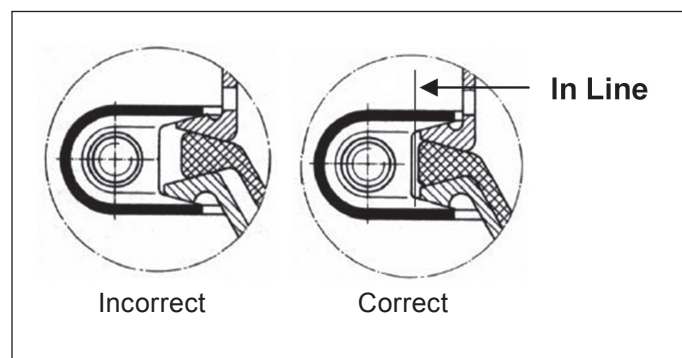

Figure 5 – Correct Diaphragm Position
1. Apply 10 psi (1 bar) of air pressure to the service port (11) of the spring brake chamber.
6. Make sure that the diaphragm is properly aligned and seated. See Figure 5. Be sure that the service diaphragm is fully inserted into the clamp.
Refer to Figure 5.
6. Make sure that the diaphragm is properly aligned and seated. *See Figure 5.*